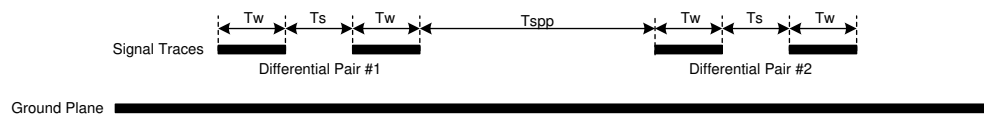

Figure 10-16. DMD Differential Layout Recommendations
DLPC7540 I/O timing parameters as well as DMD I/O timing parameters can be found in their corresponding data sheets. Similarly, PCB routing mismatch can be budgeted and met through controlled PCB routing. PCB design recommendations are provided in Table 10-8, Figure 10-16, and the paragraph below as a starting point for the customer.
- (1) Recommendations to achieve the desired nominal differential impedance as specified by R_{DIFF} in Section 6.7.
- (2) These parameters show recommendations based on the micro-strip design shown in Figure 10-16. This design minimizes signal loss to support longer trace lengths at the expense of electromagnetic interference (EMI). The designer has the option to use of a stripline design for shorter trace lengths and to target minimizing EMI at the expense of signal loss.
- (3) A reduced inter-lane spacing can be used to escape the Controller ball field, however, widen this spacing to at least the stated minimum after escape.